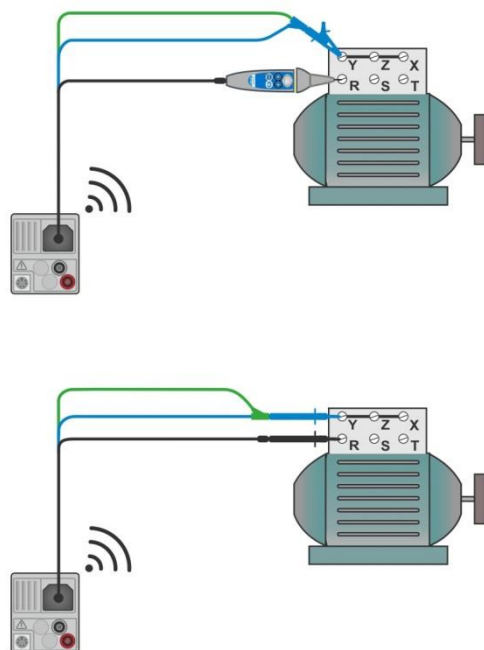

Figure 7.18: Tip commander and 3-wire test lead applications
- › Connect test leads to device under test, see **Figure 7.18**.